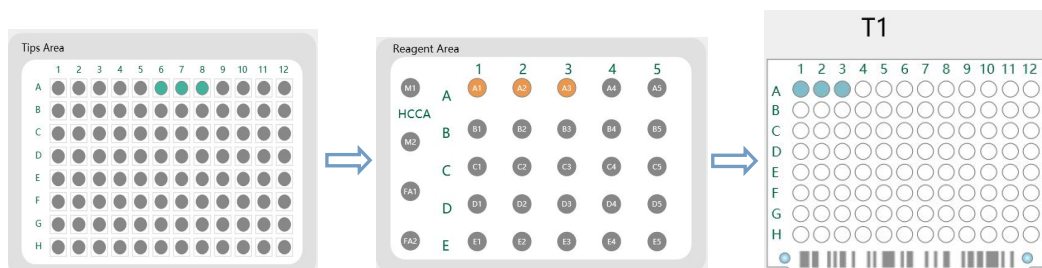

Figure 5.23 Operation Process
1) Left click or select one spot at the reagent area and select multiple spots at the target plate area. After clicking “Insert” button, a dialog box will be popped up shown as figure 5.23.